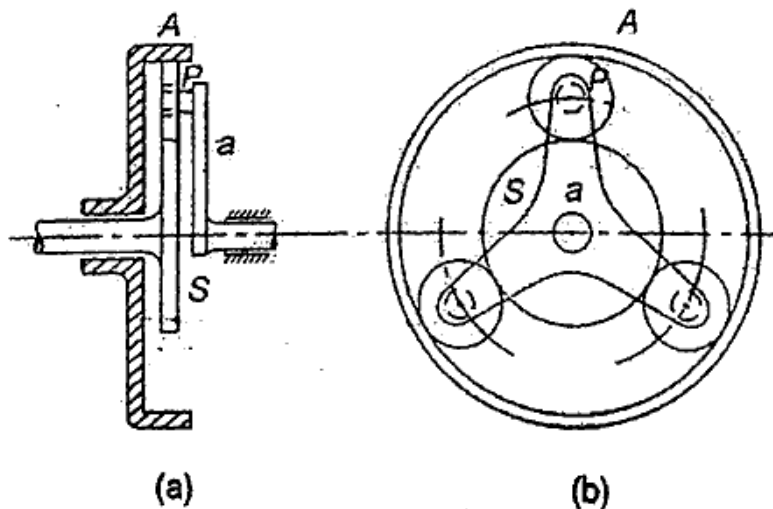

Fig. 5
- (b) In an epicyclic gear shown in Fig. 5, the pitch circle diameter of the annulus A is to be approximately 324 mm and the module is to be 6 mm. When the annulus is stationary, the three armed spider makes one revolution for every five revolutions of the wheel S. Find the number of teeth for all the wheels and exact pitch circle diameter of the annulus. If a torque of 30 Nm is applied to the shaft carrying S, determine the fixing torque of the annulus. **5**